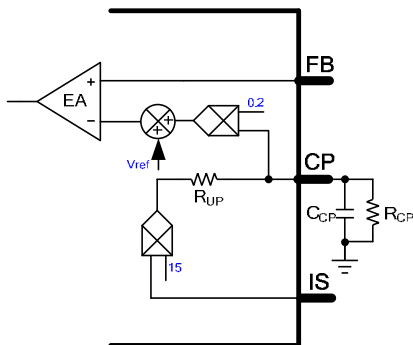

Figure 10: Cable Drop Compensation
As described in Figure 10, the CP voltage is proportional to the IS voltage. The IS voltage increases 15 times on CP. Then the voltage on CP is multiplied by 0.2 and is added to  $V_{REF}$  (typically 1V) to compare with  $V_{FB}$ . One 1μF ceramic capacitor is recommended on CP. The CP voltage can be adjusted by connecting a resistor to CP. Calculate the CP voltage with Equation (17):